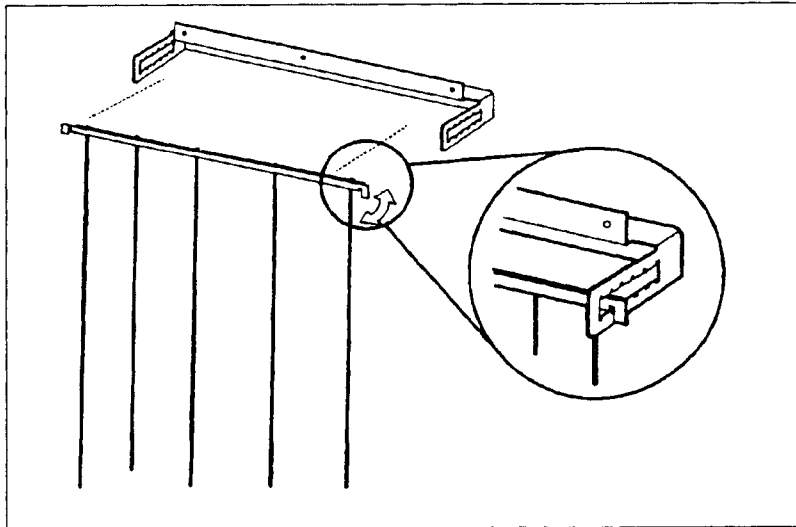

Figure 2-16. Installing Door Chains
- n. Put the door chains in the middle slot of the door chain bracket; later the customer will position them according to paper size (Figure 2-16). Close the PPS door.